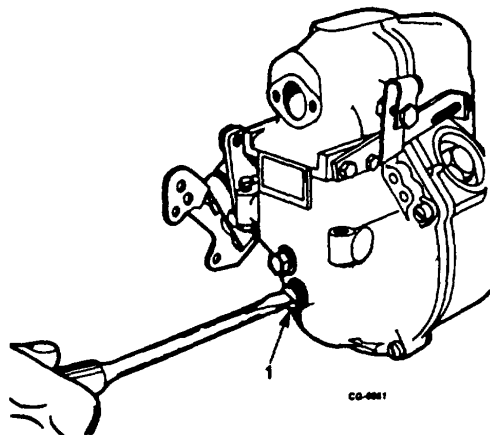

Figure 7. Removing Guide Pin
6. Remove slotted screw guide pin (Figure 7) from governor cover. Use large screwdriver to fit slot of this screw which has been sealed in place with Loctite hydraulic sealant